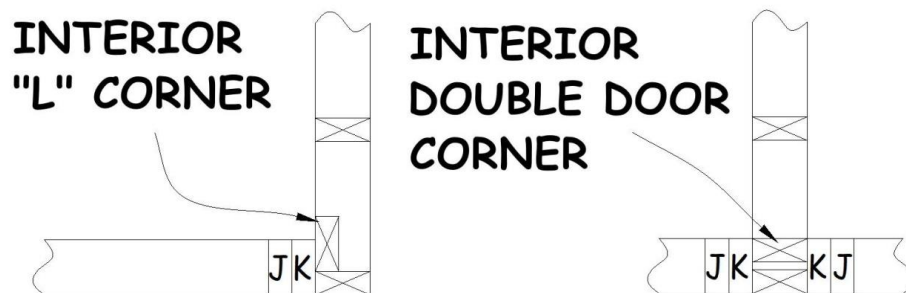

Figure 6-4. Corner Construction.
- d. Where a door will be attached at the end of a bathroom or bedroom wall, mark the end of the wall for a 2x4 L-corner oriented to allow nailing through the L-corner into the King stud of the door as shown in Figure 6-4 (similar to the 2x6 L-corners used in the exterior walls). If doors are to be attached on both sides of this same wall, omit the L-stud, and orient the additional 2x4 as shown.